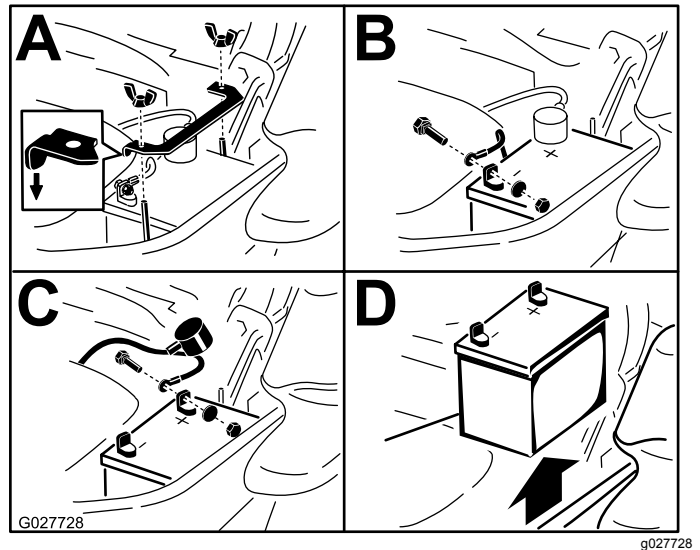

Figure 67
3. Remove the battery as shown in Figure 67.
Note: Position the battery in the tray with the terminal posts opposite from the hydraulic tank (Figure 67).